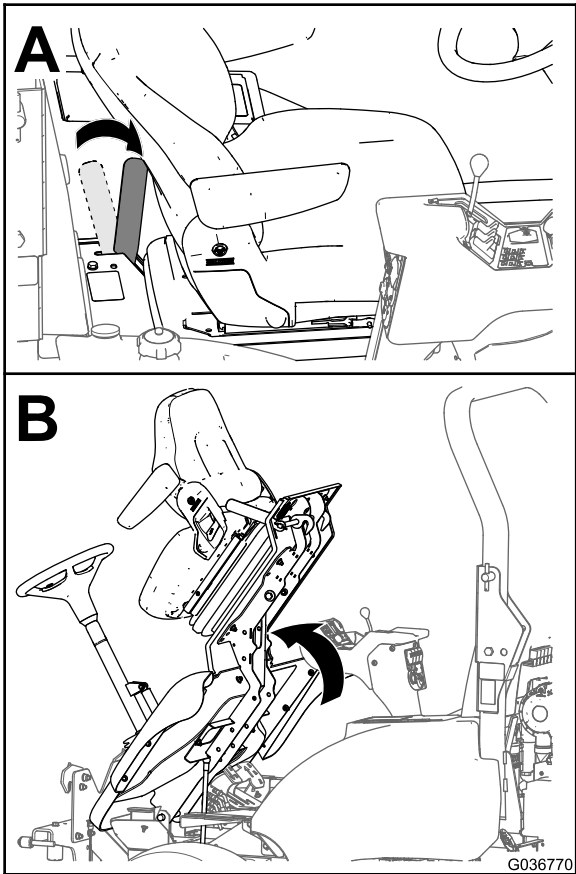

Figure 4
Move the platform latch handle to the unlock position and tilt the operator's platform forward as shown in Figure 4.
1. Lower the platform carefully; refer to Figure 4 in Raising the Operator's Platform (page 3).
2. Move the locking-latch handle toward the front of the mower as the platform nears the fully lowered position; refer to Figure 4 in Raising the Operator's Platform (page 3).